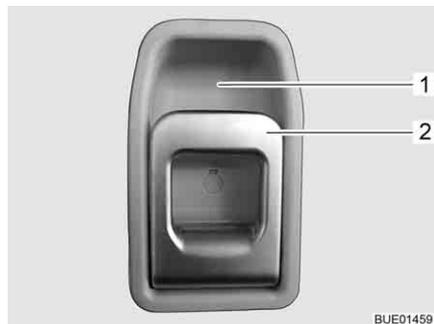

Fig. 59 Door lock of conversion door, inside
- Pull on the handle (Fig. 59,2). The door lock is unlatched.
- Press the upper part of the handle (Fig. 59,2) in the direction of the recessed handle (Fig. 59,1).